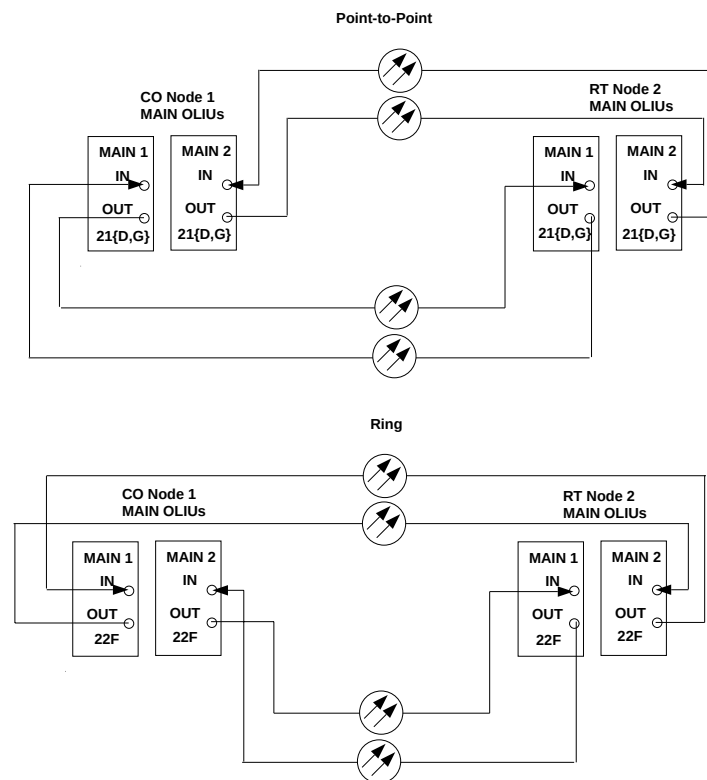

Figure 1 – OC-3 Point-to-Point and Ring OLIU Fiber Connections
Summary: This procedure, changing a point-to-point system to a ring system, requires cooperation between the central office (CO) and the remote terminal (RT). Both ends must be equipped with **22F OLIUs** in the **MAIN 1** and **2** slots. All cross-connections must be converted from *default* to *manual VT1.5* cross-connections. The fibers must be switched between **MAIN 1 and MAIN 2 OLIUs** as shown in Figure 1. This can be done *in service* or *out of service*. After the fibers are switched, the ring SONET generic (Release 7.#.#) must be loaded at both ends. If the DLC is being upgraded to Release 4.x or higher, the SONET software must be Release 7.1.02 or higher.